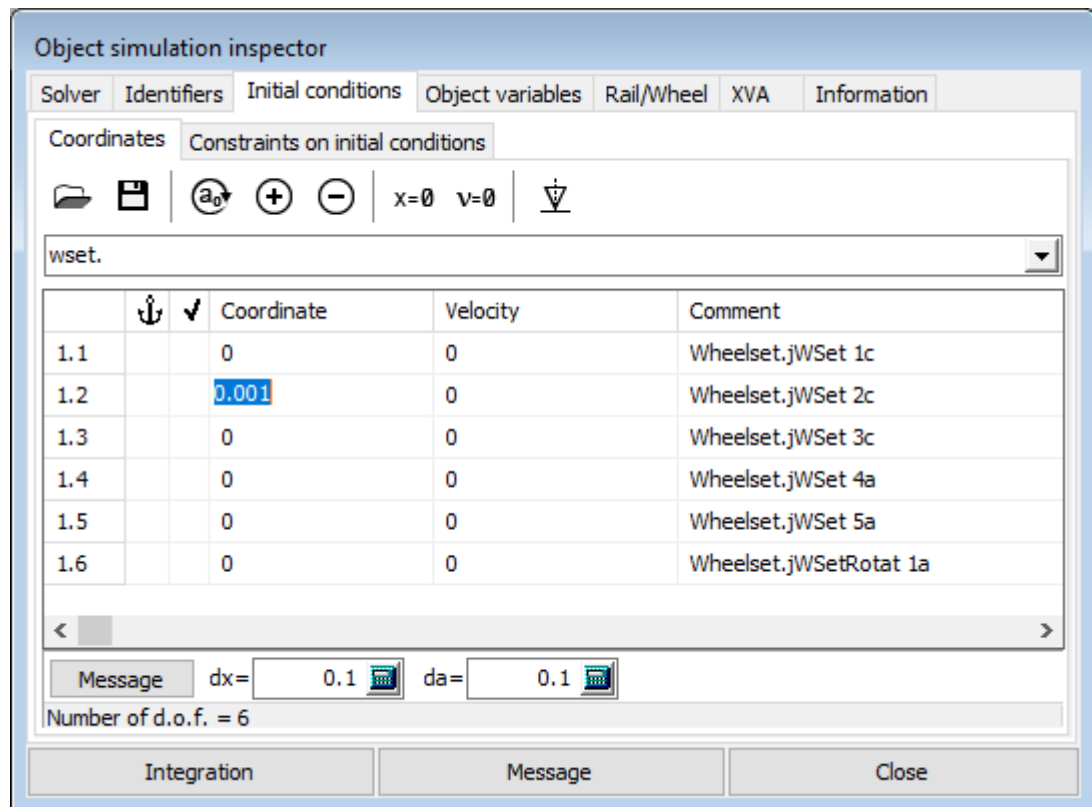

Figure 1.6. Initial conditions
2. Point to the **Initial conditions** | **Coordinates** tab, see Figure 1.6.